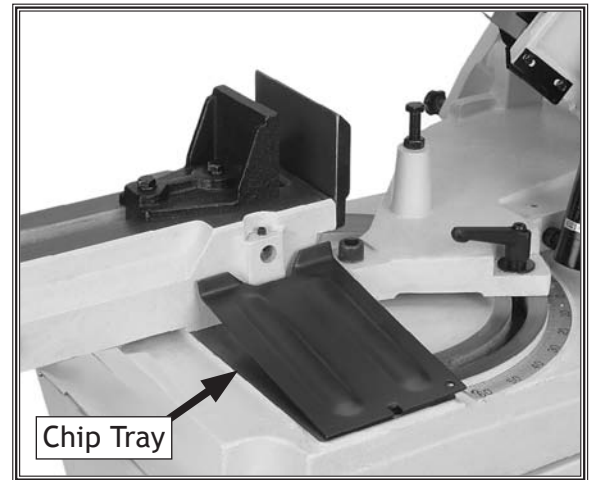

Figure 12. Chip tray installed.
1. Position the chip tray, as shown in **Figure 12**.